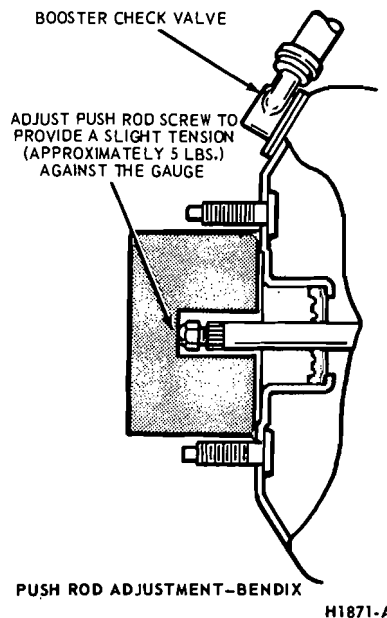

FIG. 4 Brake Booster Push Rod Measurement
2. Adjust the push rod screw to provide a slight tension against the inner edge of the adjustment gauge slot. (Approximately 5 pounds of tension against the push rod is required to assure that the push rod is firmly seated in the booster assembly. See Figure 4.